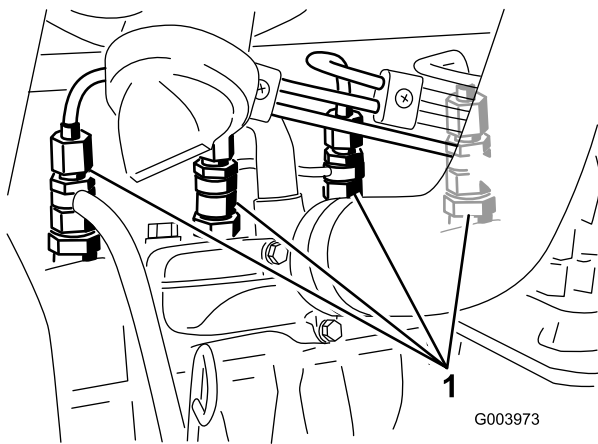

Figure 60
1. Loosen the pipe connection to the first nozzle and holder assembly (Figure 60).